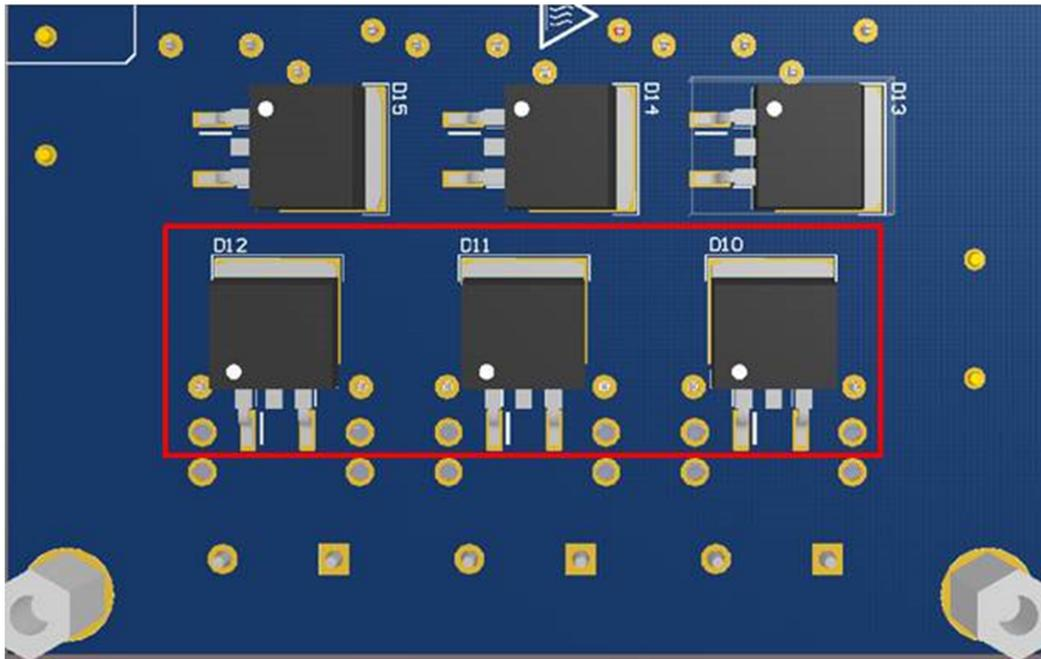

Figure 4. High-Side Diodes
- Step 1. Install the D10, D11, D12, or all three diodes, depending on which high-side FET will be driven (see Figure 4).